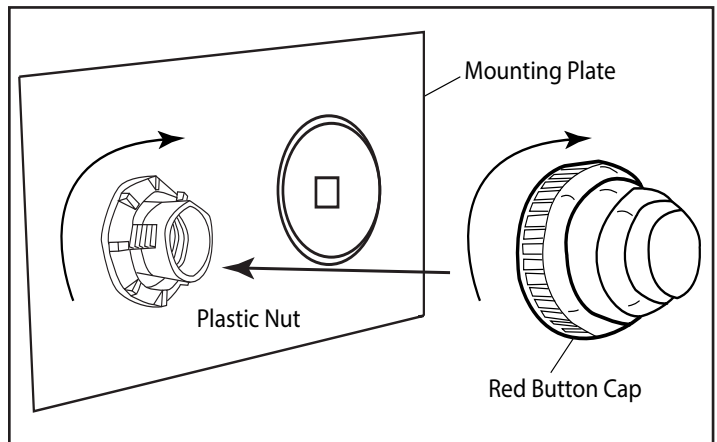

Fig. 7 Installing the manual spark ignition module (Piezo) into mounting plate.
Step 8: Install the manual spark ignitor module (Piezo) from the back side of the mounting plate and secure it with the plastic nut on the front side as shown in Fig. 7.